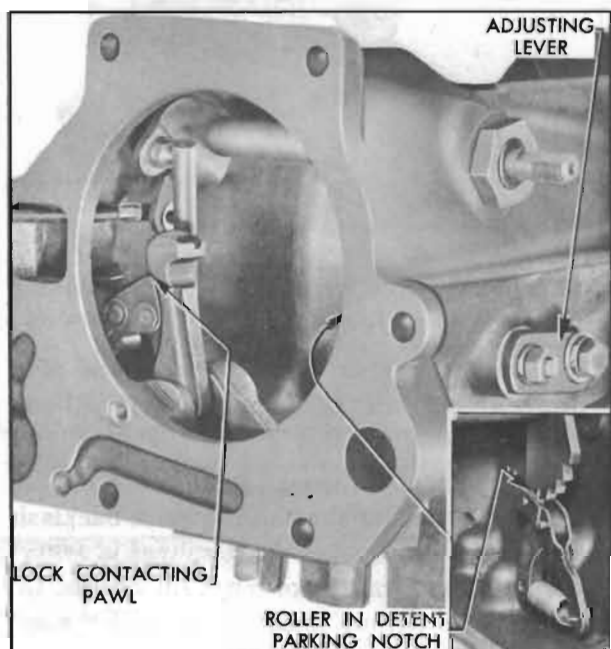

Figure 5-89—Shift Detent Adjustment
7. Temporarily install shift lever on cross shaft and shift parking pawl into Parking position. See Figure 5-89.
8. Shift the linkage adjusting lever at slotted end until the pawl lock contacts the parking pawl, then tighten adjusting lever lock bolt, being certain to maintain contact between lock and pawl. See Figure 5-89.